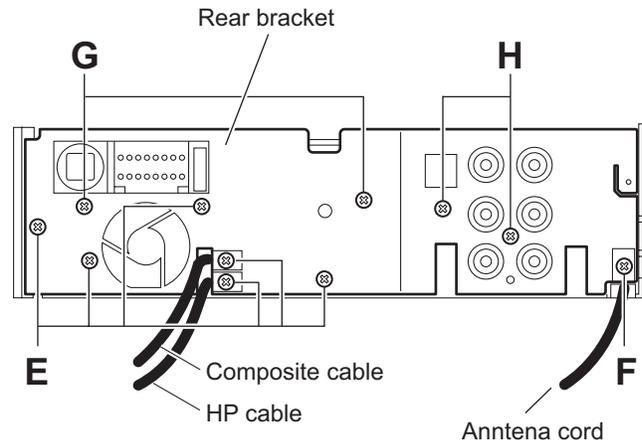

Fig.6
(See Fig.6) [except KD-DV6201]**
(See Fig.6) [For KD-DV6201]**
3.1.7 Removing the main board (See Figs.6 to 8)
- Remove the five screws **E** except KD-DV6201 or six screws **E** for KD-DV6201 attaching the rear bracket on the back side of the main body. (See Fig.6.)